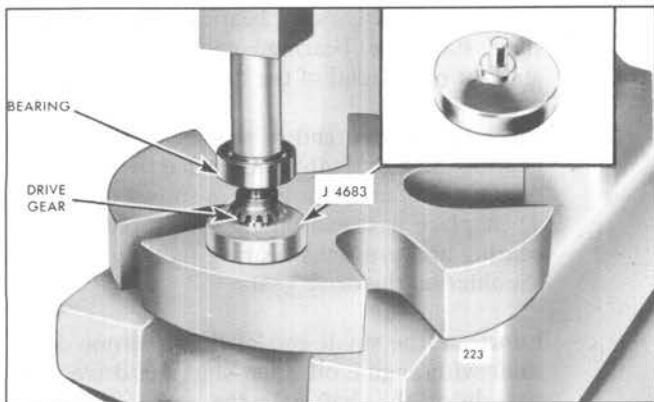

Fig. 7 – Installing Bearing on Drive Gear
- b. Place the beveled end of the drive gear on the bearing installer J 4683 and place the assembly on the bed of an arbor press as shown in Fig. 7. Then place a sleeve on the inner race of the bearing and press the bearing tight against the shoulder on the drive gear.